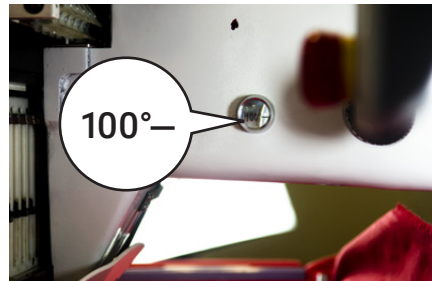

Figure 122
2. On the right side of the machine, you will find a window that displays the degree the machine is aligned to. **See Figure 122.**